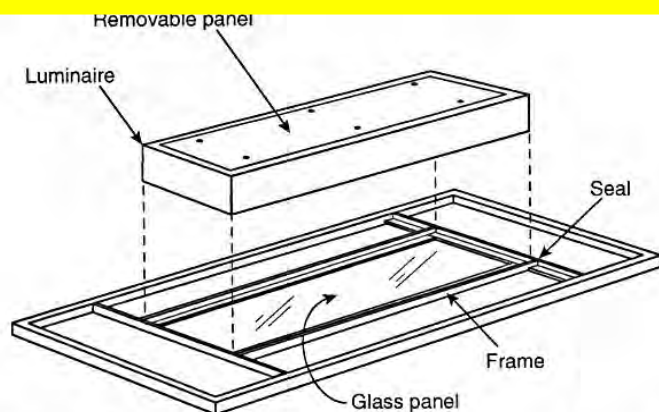

FIGURE 6.6.1 Example of a Luminaire Mounted Outside the Spray Area and Serviced from Outside the Spray Area.
6.6.1 Luminaires, like that shown in Figure 6.6.1, that are attached to the walls or ceiling of a spray area but that are outside any classified area and are separated from the spray area by glass panels that meet the requirements of Section 5.6 shall be suitable for use in unclassified locations. Such fixtures shall be serviced from outside the spray area.
6.6.2 Luminaires, like that shown in Figure 6.6.1, that are attached to the walls or ceiling of a spray area; that are separated from the spray area by glass panels that meet the requirements of Section 5.6; and that are located within a Class I, Division 2; a Class I, Zone 2; a Class II, Division 2; or a Zone 22 location shall be suitable for such location. Such fixtures shall be serviced from outside the spray area.